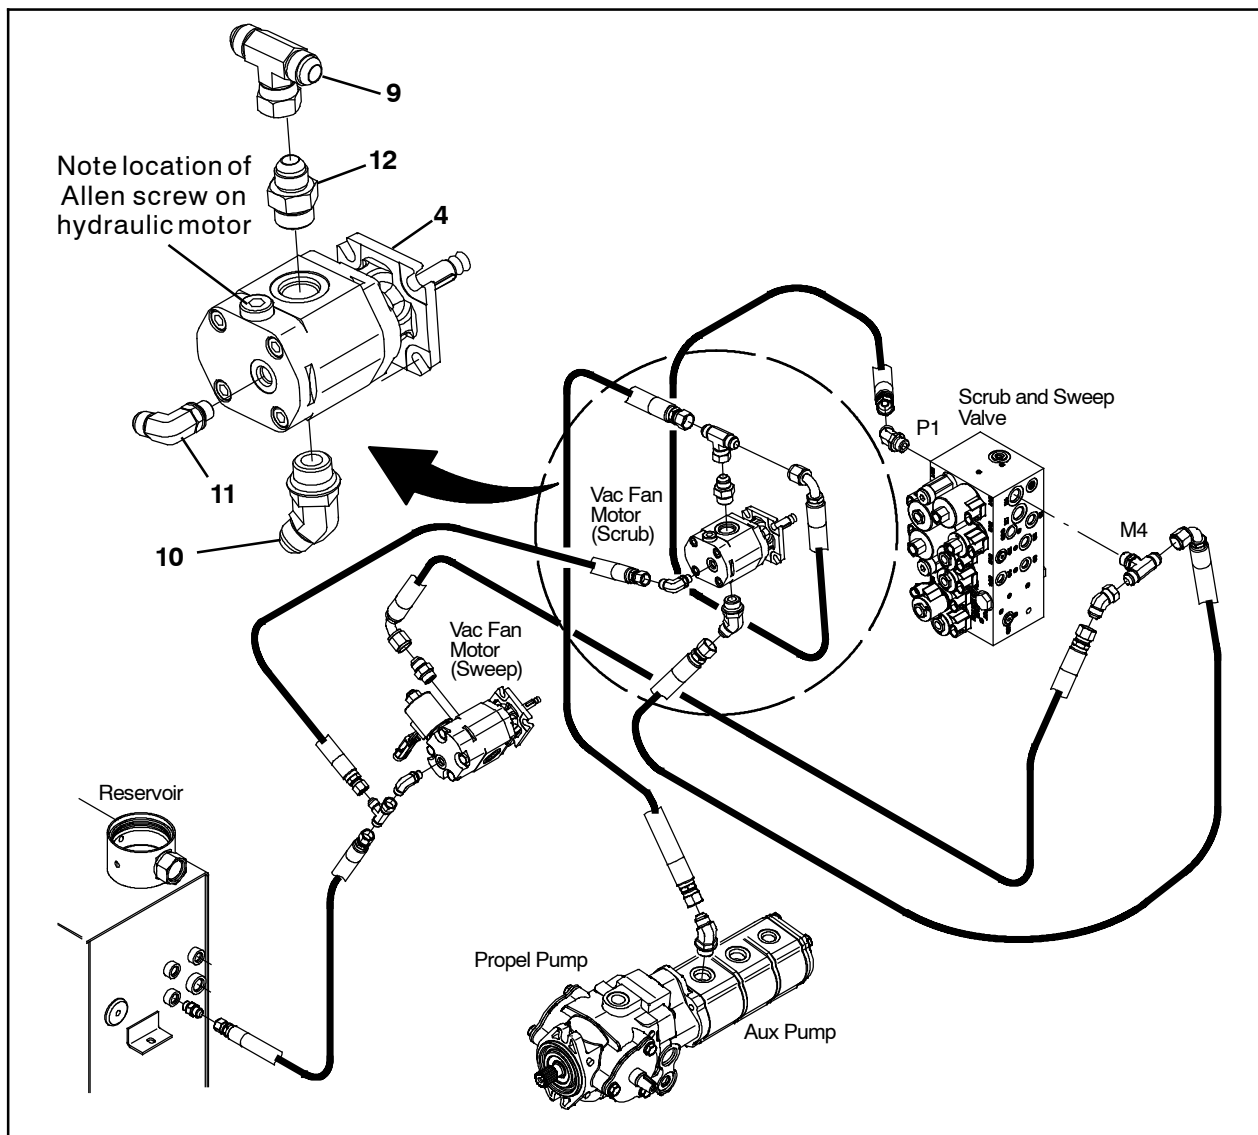

FIG. 12
11. Install the straight fitting (12) and t-fitting (9) onto the scrubbing fan hydraulic motor (4). Note location of Allen screw on the scrubbing fan hydraulic motor. (Fig. 12)
12. Install the 90° fitting (11) onto the scrubbing fan hydraulic motor (4). (Fig. 12)
13. Install the 45° fitting (10) onto the scrubbing fan hydraulic motor (4). (Fig. 12)
18. Connect the hydraulic hoses previously disconnected from the removed scrubbing vacuum fan assembly to the new scrubbing vacuum fan assembly. (Fig. 12)